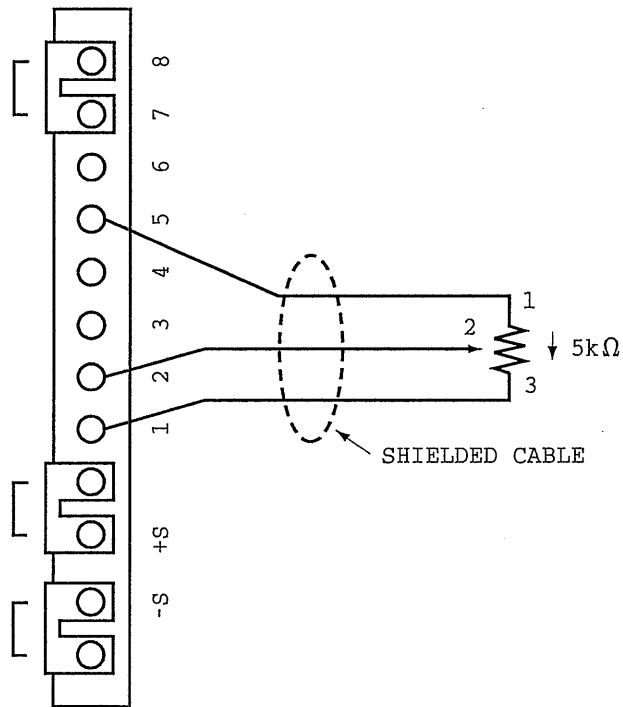

Figure 2.9.1 Rear Panel Terminal Block Connections for External Resistance Control
1. Fashion a three lead shielded cable to a variable resistance (5k ohms recommended) and attach it to terminals 1, 2 and 5 of the Rear Panel Terminal Block as shown in Figure 2.9.1